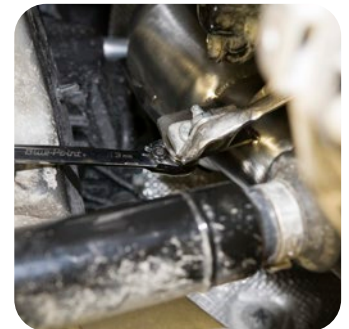

FIG. 26
- 26** Reinstall loosely the two (2) 13mm nuts holding the downpipe to the engine bracket. (See Fig. 26)